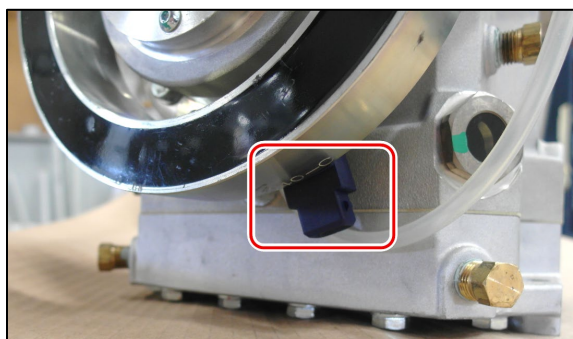

FIGURE 17
34. Install the coil. Slip the coil on the compressor flange. The cable connector must be positioned on the right side as shown in Figure 17.